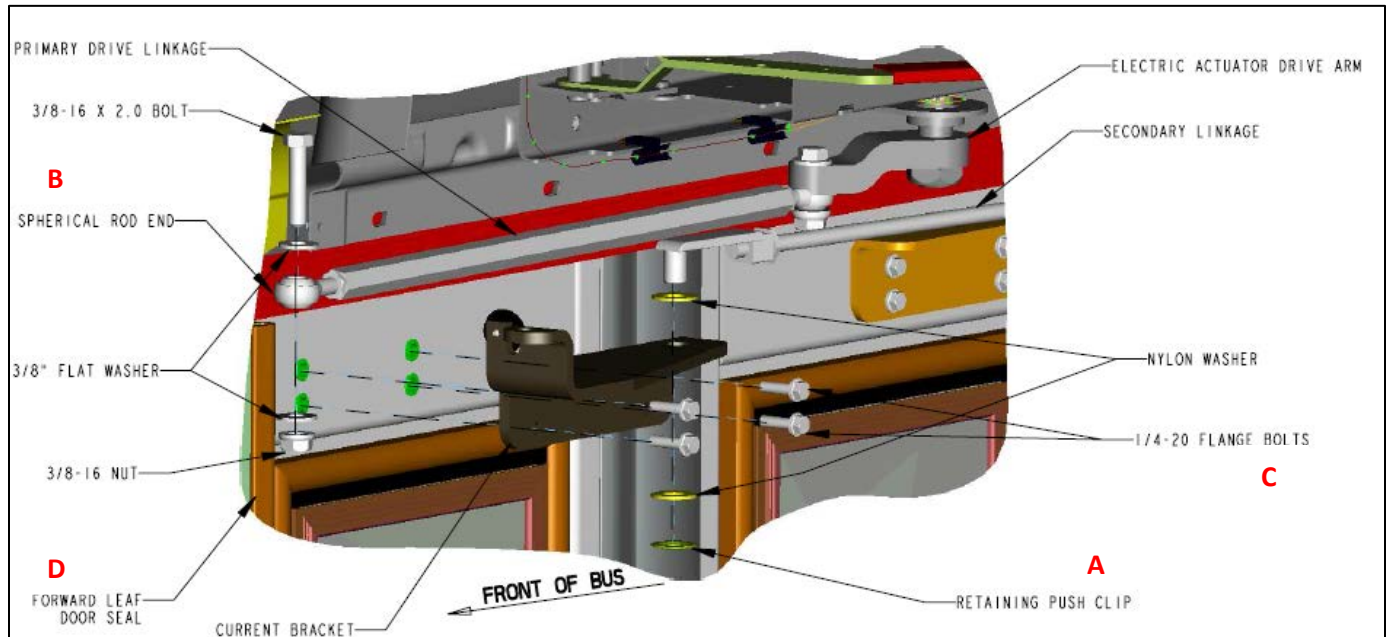

Figure 6: Connections to electric entrance doors
- 2) Remove the retaining push clip from the secondary linkage and discard. Retain the nylon washers for reinstallation. **See Figure 6 item A.**
- 3) Remove the 3/8 in. bolt, nut, and washers from the rod end of the cylinder. Retain for reinstallation. **See Figure 6 item B.**
- 4) Remove all four 1/4 in. flange bolts that hold the existing bracket on the leaf. **See Figure 6 item C.** Discard the bracket and retain the flange bolts for reinstallation.
- 5) Using a screw gun, loosen the forward leaf door seal. **See Figure 6 item D.**